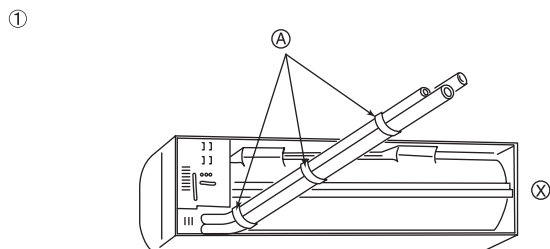
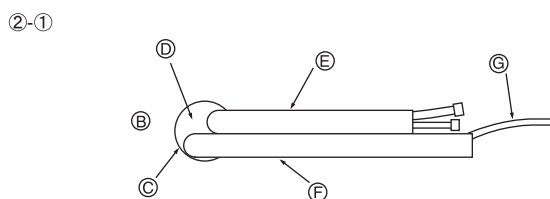

Fig. 3-4
Fig. 3-5
- ① Fasten a thread to the hole.
- ② The level can be easily obtained by hanging a weight from the string and aligning the string with the mark.
- ① Rear, right and lower piping (Fig. 3-4)
- (A) Vinyl tape
- (X) This figure is viewed from the back of the unit.
- ② Left and left rear piping
- ②-① For left rear piping, pull the pipes out the hole to determine their correct length, then bend them. The indoor unit should hang on the wall mounting fixture. (Fig. 3-5)
- (B) Wall
- (C) Wall hole
- (D) Bent section
- (E) Refrigerant pipe
- (F) Drain pipe
- (G) Transmission cable